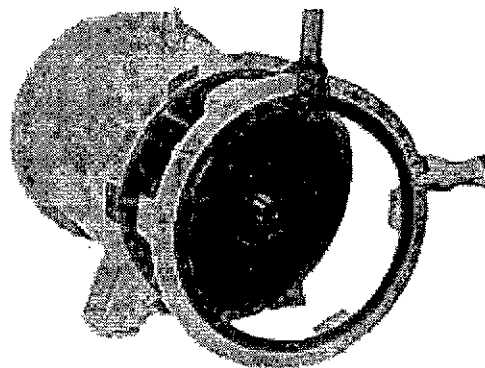

**Figure 6-54**
2. Using a rotor lifting fixture and a suitable hoist, carefully install the rotor assembly into the main stator assembly through the drive end. (Figure 6-54.) Carefully feed the rotor leads through the front-end bracket shaft hole as the rotor is installed.